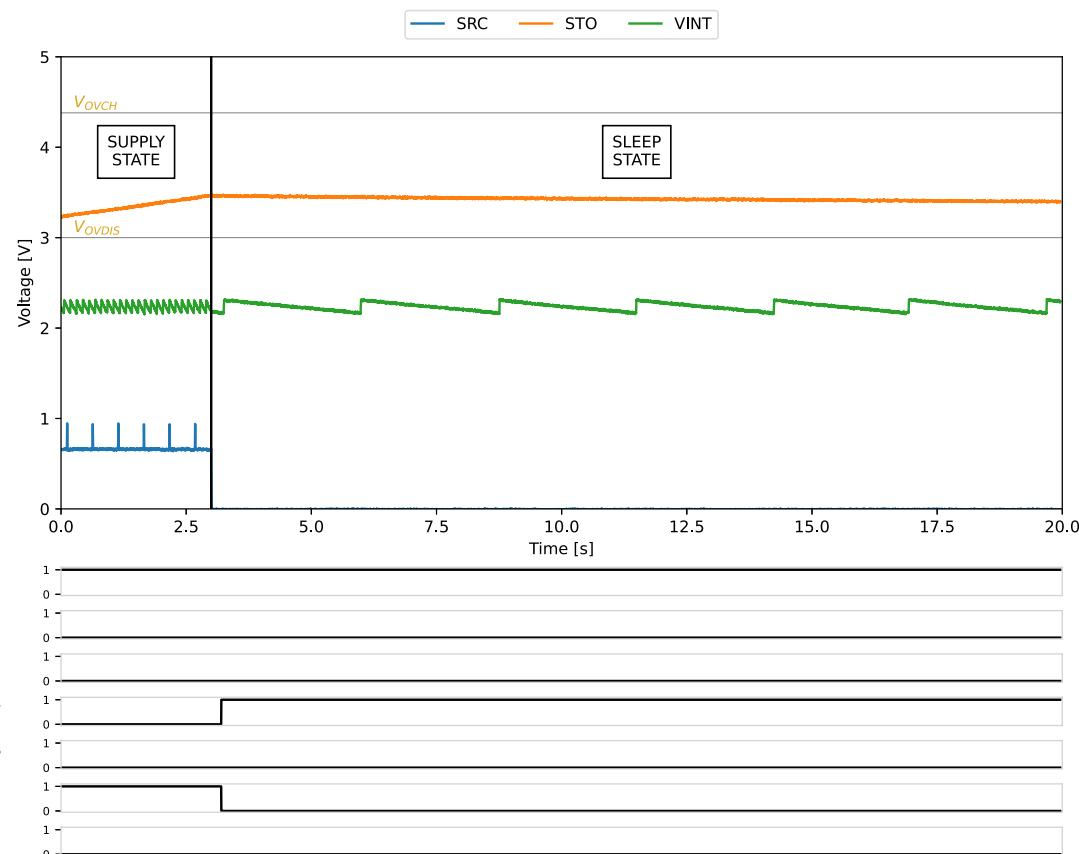
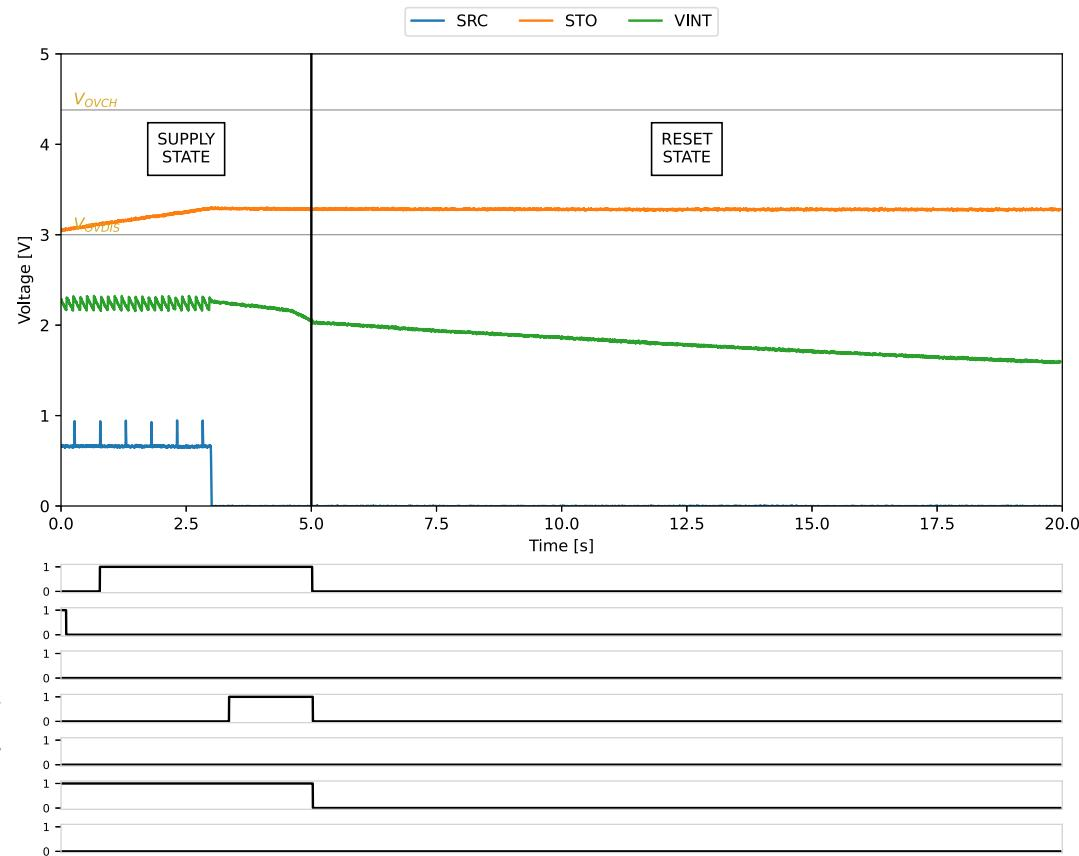

Figure 20: **KEEP\_ALIVE HIGH behavior**
Figure 21: **KEEP\_ALIVE** LOW behavior
- **KEEP\_ALIVE:** is enabled on Figure 20 and disabled on Figure 21.
- **KEEP\_ALIVE** = H (Keep-alive enabled, Figure 20): the AEM1090x switches to **SLEEP STATE**, **VINT** keeps being supplied from the storage element connected to **STO**. The AEM1090x will be able to harvest again as soon as power is restored to the **SRC** pin. On the other hand, a small current is pulled from the storage element ( $I_{Q\text{SLEEP}}$ , see Table 5).
- **KEEP\_ALIVE** = L (Keep-alive disabled, Figure 21): **VINT** can only be supplied from the energy available on **SRC**, so as soon as the power source is switched off, **VINT** stops being supplied. Once **VINT** falls below  $V_{\text{INT,RESET}}$ , the AEM1090x switches to **RESET STATE**, so that no current is pulled from the storage element. The stored energy is thus preserved. On the other hand, when power is restored to the **SRC** pin, the AEM1090x must perform a cold start to resume harvesting.